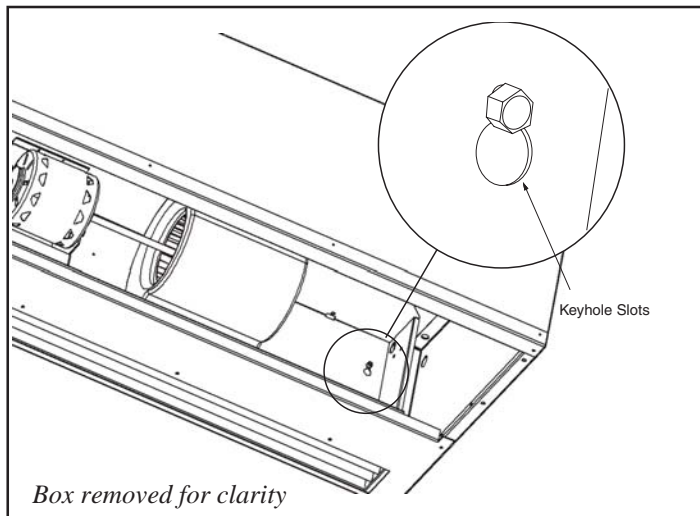

FIGURE 4
- Loosen (do not remove) the four (4) 1/4" bolts that attach the blower assembly to the enclosure. Remove the blower assembly by lifting the keyhole slots up and over the bolts and set aside. **See FIGURE 4**
- C. Loosen (do not remove) the four (4) 1/4" bolts that attach the blower assembly to the enclosure. Remove the blower assembly by lifting the keyhole slots up and over the bolts and set aside. **See FIGURE 4**
5. Loosen (do not remove) the four (4) 1/4" bolts that attach the blower assembly to the enclosure. Remove the blower assembly by lifting the keyhole slots up and over the bolts and set aside. **See FIGURE 4**
4. Loosen (do not remove) the four (4) ¼” bolts that attach the blower assembly to the enclosure. Remove the blower assembly by lifting the keyhole slots up and over the bolts and set aside. **See FIGURE 4**
5. Loosen (do not remove) the four (4) ¼” bolts that attach the blower assembly to the enclosure. Remove the blower assembly by lifting the keyhole slots up and over the bolts and set aside. **See FIGURE 4**